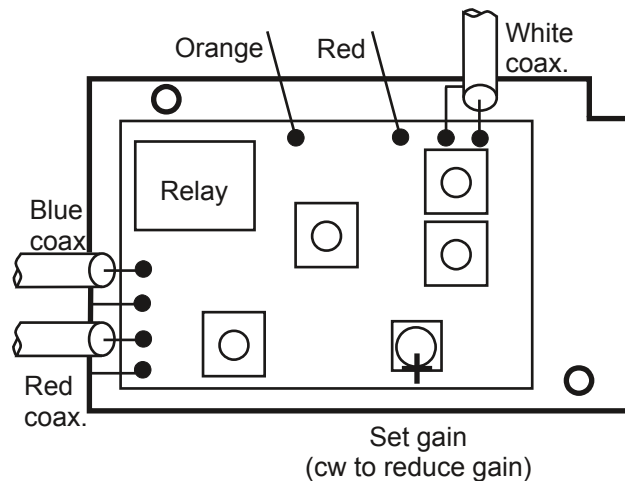

Figure 5: Connections to FT290s2 pcb
15. Solder the wires and coax cables to the SLNA290s2 as shown in Fig.5.